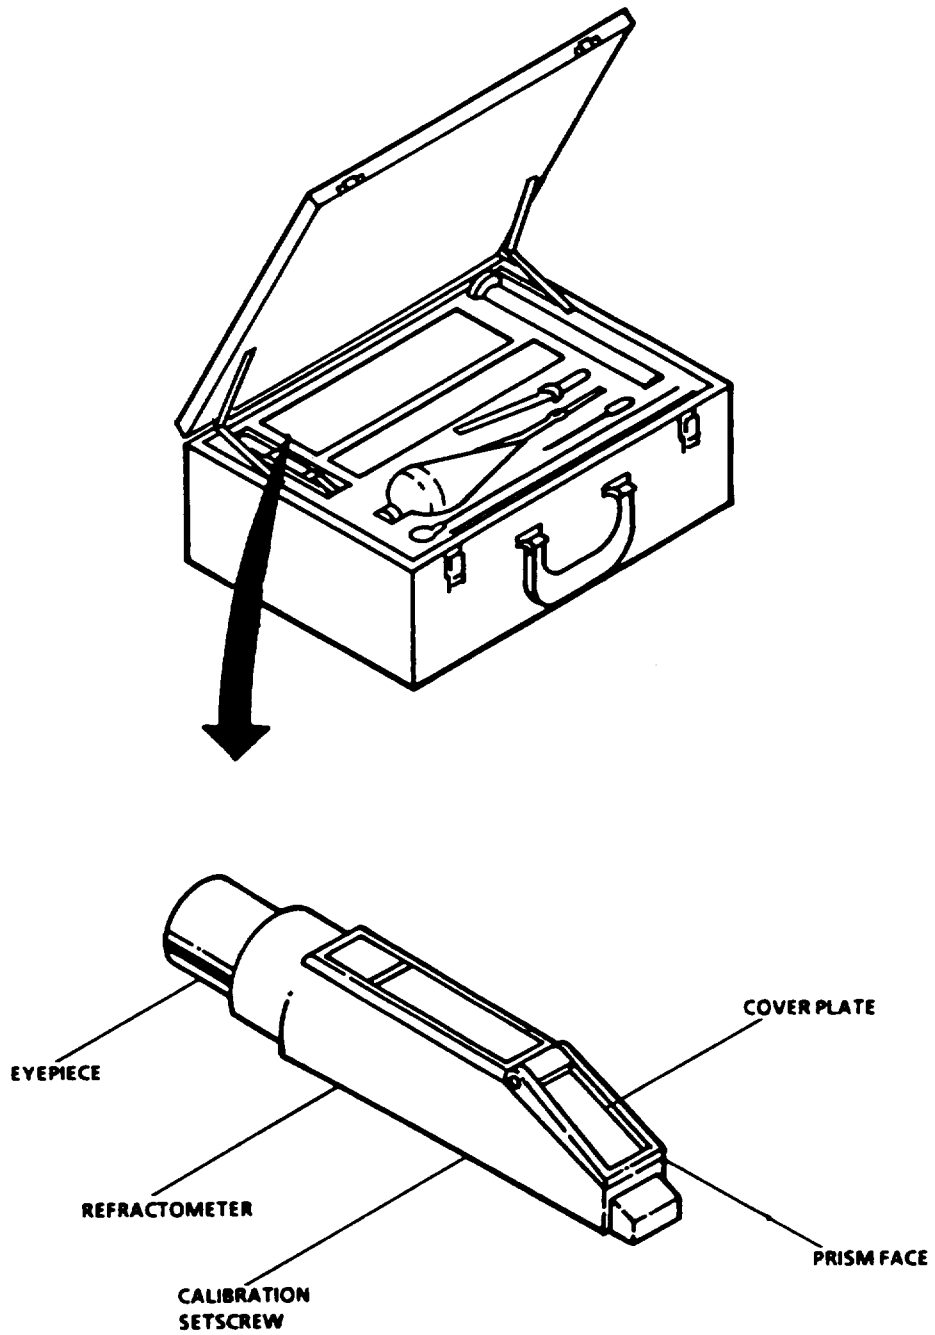

Figure 2-9. Anti-Icing Additive Test Kit
h. Anti-Icing Additive Test Kit Controls and Indicators. The hand refractometer is part of the anti-icing additive test kit. Figure 2-9 and Table 2-9 list the controls and indicators for the refractometer.